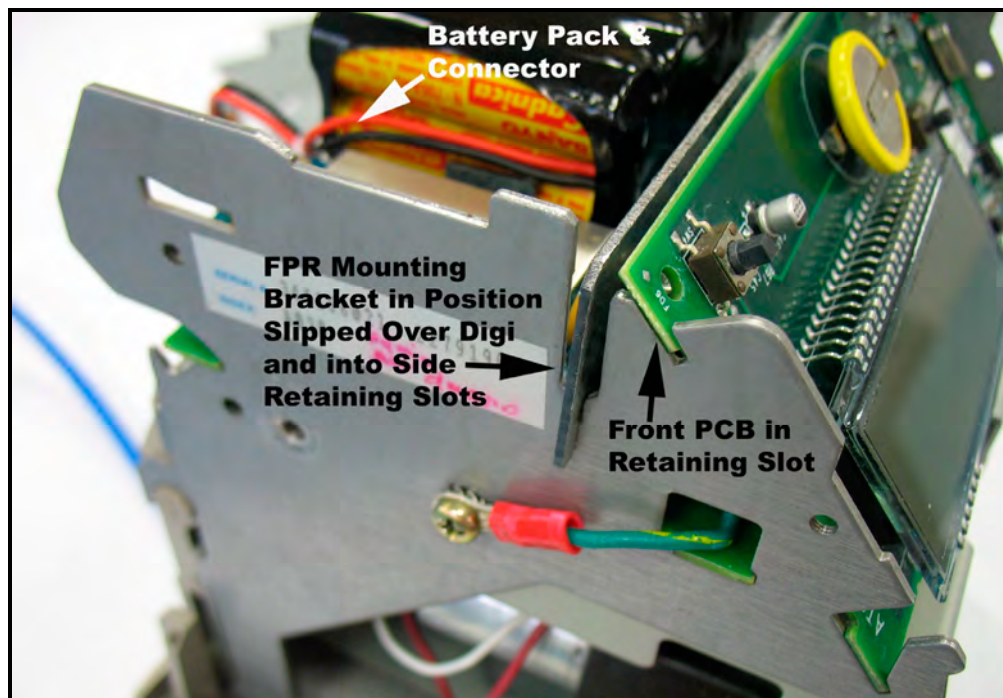

Figure 2-6. Front PCB & FPR Mounting Bracket in Position.
6. Carefully lift the front PCB up and out of its retaining slot (see *Figure 2-6*). This is the PCB with the coin battery on it. Just lift the PCB up enough to provide adequate clearance for the FPR mounting bracket to be inserted into its side retaining slots on the right and left sides of the main clock frame (see *Figure 2-6*).
8. After the FPR mounting bracket is in its proper position, return the front PCB to its original position seated in its retaining slot. In this position the top rear of the PCB will fit close alongside the FPR mounting bracket (see *Figure 2-6*).